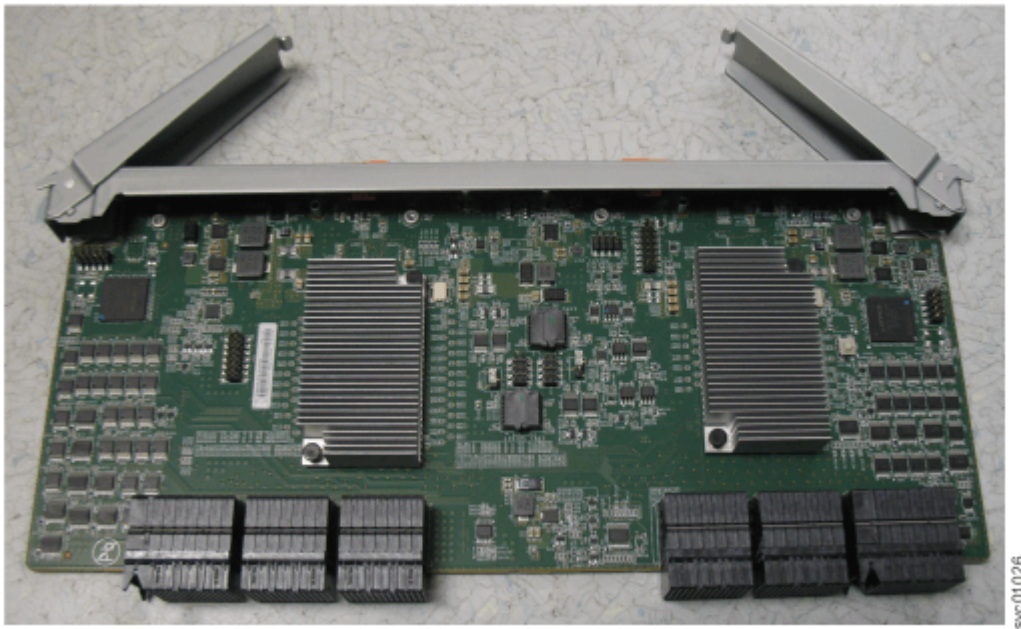

Figure 138. Secondary expander module removed from the enclosure
5. Place the secondary expander module in a safe location, as shown in Figure 138 on page 186.